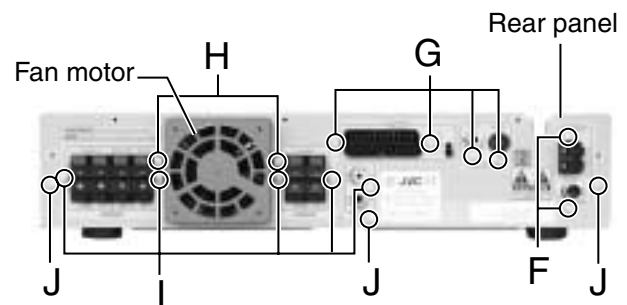

Fig.7
■ Removing the rear panel (See Fig.7 and 8)
■ Removing the tuner pack (See Fig.7 and 8)
■ Removing the jack board (See Fig.7 and 8)
■ Removing the fan motor (See Fig.7 and 8)
3. Remove the five screws I attaching the speaker terminals and jack to the rear panel (see fig.7).